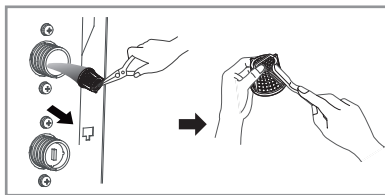

Fig.21
- Clean the filter using a hard bristle brush under the running water. (Fig.21)